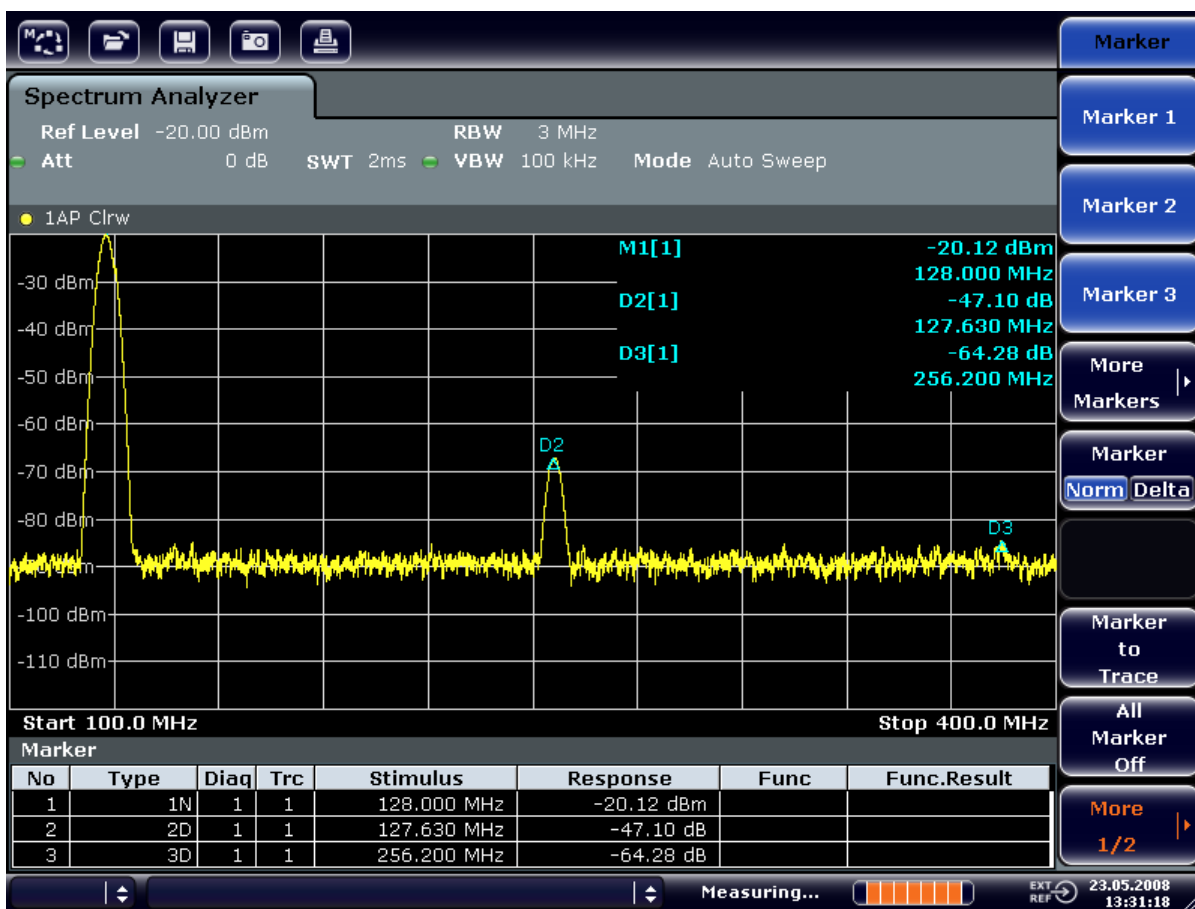

Figure 7-2: Measuring the harmonic suppression of the internal reference generator.
- b) In the "MKR" menu, press the "Marker 3" softkey. "Marker 3" is activated as a delta marker ("D3 [1]"). It is automatically set on the next largest harmonic of the signal. The frequency offset and level offset from marker 1 on the fundamental are displayed in the channel information bar (see Figure 7-2).